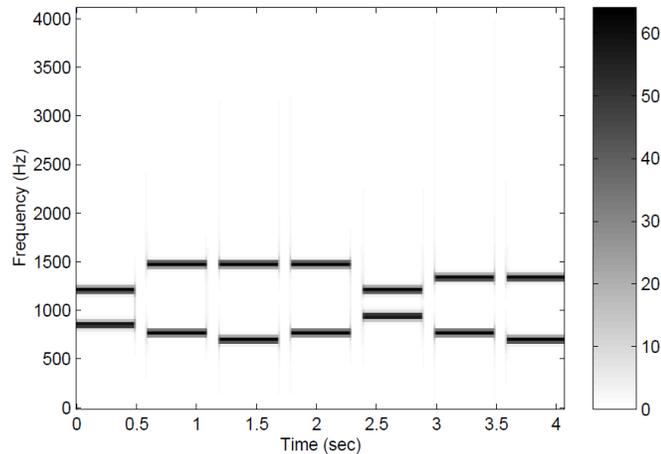

Figure 7.1: A spectrogram of a DTMF signal. Each horizontal bar indicates a sinusoid that exists over some time period.
The DTMF signal in the time domain does not convey much information, but by using a spectrogram we can glean more useful information of the DTMF signal. The *spectrogram* allows one to see the frequency properties of a signal as they change over time. The spectrogram involves taking multiple Discrete Fourier Transforms (DFTs) over small, overlapping segments of a signal. The resulting DFT magnitudes are then combined in a matrix and displayed as an image. A spectrogram of a DTMF signal is shown in Figure 7.1. The x-axis represents time and the y-axis represents frequency. The bars represent a sinusoid of a particular frequency existing over some time period. Notice that at each time, there are two bars, which show the presence of the two sinusoids that make up the DTMF tone. From this one can identify the number that was pressed.
- What is the phone number that has been dialed in Figure 7.1?